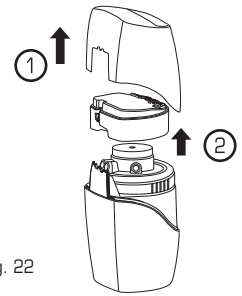

Fig. 22
4. **Remove** the Top Shroud from the Water Purifier (1). Remove the Electronic Module (2) (Fig. 22).